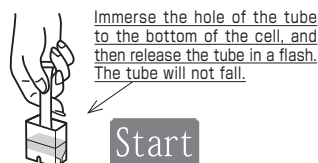

Fig.2
4. Immerse the hole of the tube in the sample. Draw the whole cell sample into the tube instantly. Press <Start> at the same time. (Fig.2)